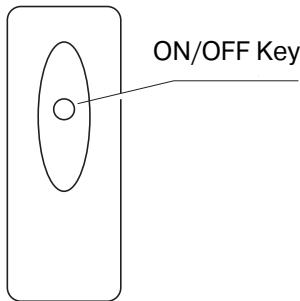

Figure 2. Infrared remote control.
5.2.1 Air Curtain is controlled by infrared remote control or ON/OFF key on the front panel of Air Curtain (Fig.2 and 3)